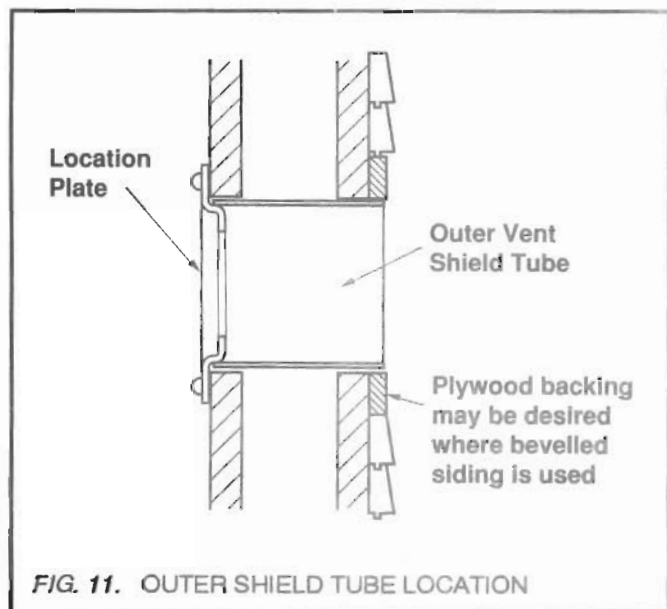

FIG. 11. OUTER SHIELD TUBE LOCATION
- 6.6.4.** Insert the shield tube into the wall from the outside wall. Push the tube firmly in so that it locates fully over the dished diameter of the inside wall plate. Trim the tube if necessary (see figure 11). The outside end of the tube can be temporarily held in place by inserting wedges of cardboard, wood etc. round the wall hole to prevent tilting.